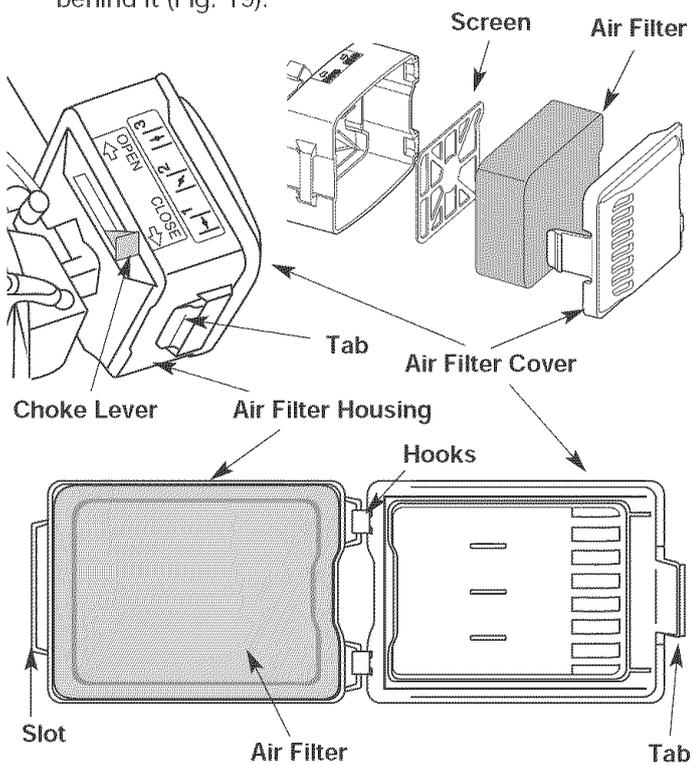

Fig. 19
1. Open the air filter cover. Push the tab on the left side of the cover in, swing the air filter cover out and off the air filter housing (Fig. 19).
2. Remove the air filter and the screen that sits behind it (Fig. 19).
6. Replace the filter and screen (Fig. 19).